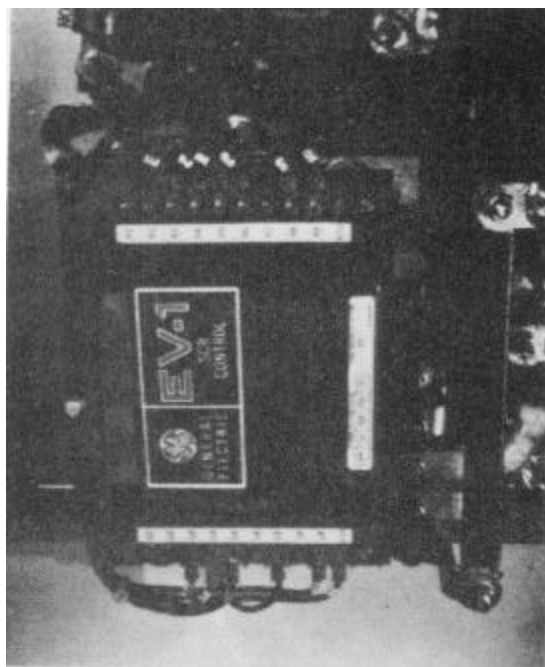

Figure 5-167
2. SCR panel is located at lower left hand corner of door(Facing door) (Fig. 5-167).
11. Use a 9/16 socket wrench to remove the three hex head cap screws, lockwashers and flat washers, attaching the SCR control to the electric door assembly (Fig. 5-167). Protect the SCR assembly from dropping off the door unexpectedly.
16. Align the SCR control mounting holes with the tapped mounting holes in the electrical door module. Place the SCR control directly into position and fasten with the appropriate hardware (Fig. 5-167).